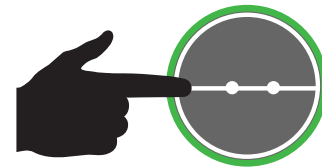

Figure 5. Main Circuit Breaker ON Button
6. Press the **Main Circuit Breaker ON** button (Figure 5) on the digital controller touch display.